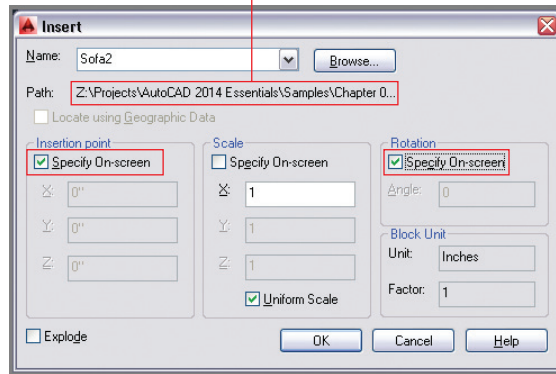

FIGURE 9.8 Configuring a global block in the Insert dialog box.
5. Click the Insert tool on the Block panel. The Sofa2 block is not yet defined in this drawing's block table, so you won't find it in the Name drop-down. Click the Browse button and locate the Sofa2.dwg file you saved in the previous exercise, or use the Sofa2.dwg file provided in the Samples folder for Chapter 9. Select Specify On-screen for both Insertion Point and Rotation in the Insert dialog box (see Figure 9.8) and click OK.